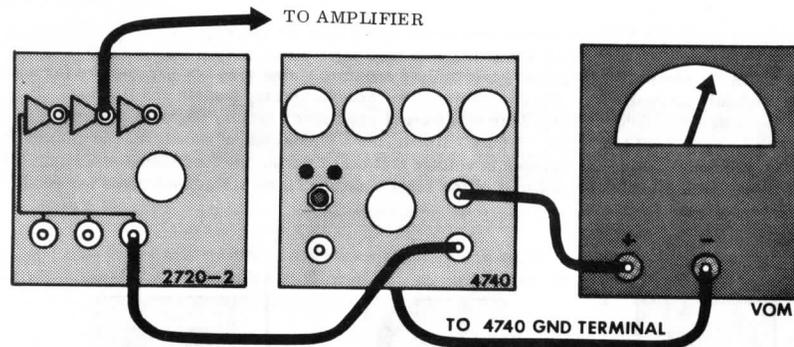

Figure 6
Initial equipment connections should be as shown in figure 6. Connect a +18v. supply to the ++ power connection on the rear edge of the 4740 circuit board and ground to the (1/2) connector. Patch the fixed output of the 4740 (lower right hand pin jack) to one of the control voltage inputs of the VCO. Connect the VOM between the variable output (upper right hand pin jack) and ground and set to a scale on which you can conveniently read 5v. Set the 4740 front panel controls as follows: ATTACK - full clockwise (CW), DECAY - full counter-clockwise (CCW), SUSTAIN - full CW, RELEASE - full CCW, LEVEL - full CW.